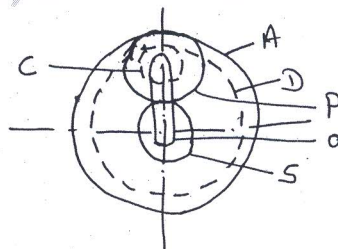

Fig Q8(a) (10 Marks)
- 8 a. In a reduction gear shown in Fig Q8(a) the input "S" has 24 teeth, P and C constitute a compound planet having 30 and 18 each respectively. If all gears are of the same pitch, find the ratio of the reduction gear. Assume "A" to be fixed.